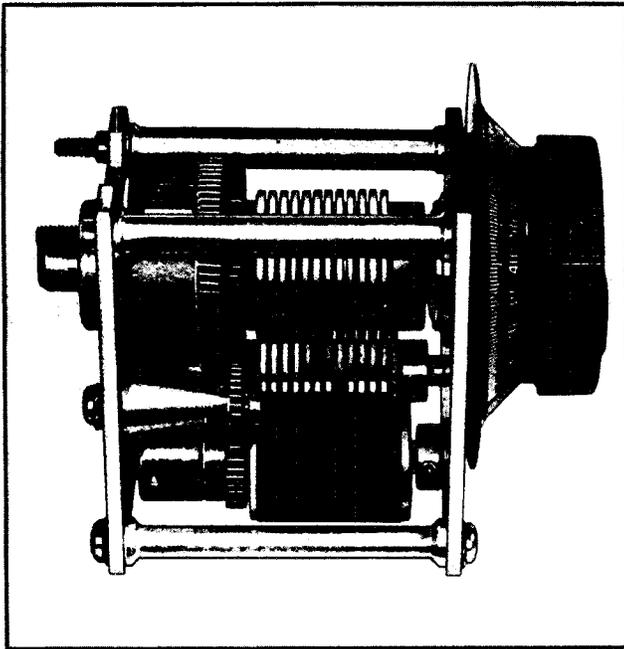

Figure 4-15. Singleturn Autotune Unit (Type 96J)—
(5) CHANNEL SELECTING SWITCH S108.— This switch permits the selection of any one of ten high-frequency Autotune channels, one low-frequency channel and "MANUAL" tuning of the transmitter. It completes the circuit to ground (Br. Earth) necessary for the operation of the motor control relay K101.
(6) CIRCUIT SEEKING TAP SWITCH S109.— This switch is driven by the Autotune motor, B101, through a worm and spur gear arrangement. The circuit seeking tap switch, S109, completes the circuit necessary for the operation of the motor control relay, K101. Of the 12 circuits connected to the circuit seeking tap switch, S109, 11 are grounded (Br. Earthed) at all times. The operation of motor control relay K101 connects front limit switch section S112 in the circuit, preventing seeking switch S109 from finding the circuit selected by "CHANNEL" selecting switch S108 until after the limit switch operating arm reaches and operates front limit switch section S112.
(7) REAR LIMIT SWITCH SECTION S111.— S111 is normally held in the operated position to complete the circuit necessary for the operation of keying relay, K102 and dynamotor input relay K2703. When released by the limit switch operating arm, contacts 2 and 3 of the rear limit switch section, S111, short motor torque retainer resistor R115 out of the circuit preparatory to the release of motor control relay K101. The return of the limit switch operating arm to the original position opens contacts 2 and 3 of rear limit switch S111, placing motor torque retainer resistor R115 again in the circuit, thereby stopping Autotune motor B101.
(8) FRONT LIMIT SWITCH SECTION S112.— The normally closed contacts of S112 complete the holding circuit for motor control relay K101 through contacts 5 and 6 of K101. When the front limit switch section, S112, is operated by the switch operating arm, allowing circuit seeking tap switch S109 to find the circuit position selected by "CHANNEL" selecting switch S109, the operating circuit for motor control relay K101 is broken allowing K101 to release. The return of motor control relay K101 to the unoperated position reverses the direction of rotation of the Autotune motor, B101.
(9) KEYING INTERLOCK SWITCH S113D.— This switch is operated by the "ANTENNA TUNING—COARSE," control C, and prevents the operation of the keying relay, K102, between settings of control C when "LOCAL-REMOTE" switch S107 is in the "LOCAL" position.
c. OPERATION CYCLE OF AUTOTUNE MECHANISM.—The Autotune system consists of one Multiturn unit and several Singleturn units (see figs. 4-15, 4-16, 4-17, 4-18, and 4-19) which are driven by a reversible motor through a line shaft. The Multiturn unit may be set up to select any dial setting in a con-